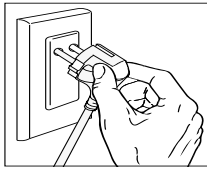

figure 1
1. Plug-in the sander's AC power cord to the power source (110-120V a.c. output). The warning "beep" sounds will occur after the plug is securely plug-in to the power source and the LED indicator shows "Solid Red" color at the moment. - see figure 1.